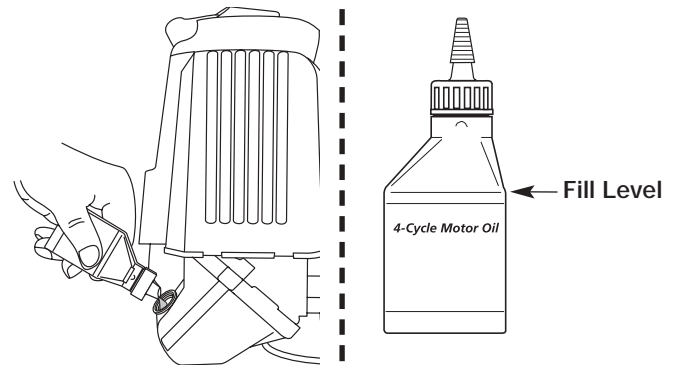

Figure 43
**NOTE:** Use the bottle and spout saved from initial use to measure the correct amount of oil. The top of the label on the bottle measures approximately 3.4 ounces (100 ml). Check the level with the dipstick. If the level is low, add a small amount of oil and recheck. Do not overfill. See Figure 43.